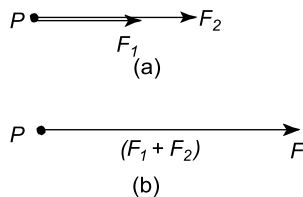

Figure 5.5
- (a) For forces acting in the same direction and having the same line of action, the single force having the same effect as both of the forces, called the **resultant force** or just the **resultant**, is the arithmetic sum of the separate forces. Forces of F_1 and F_2 acting at point P , as shown in Figure 5.5(a), have exactly the same effect on point P as force F shown in Figure 5.5(b), where $F = F_1 + F_2$ and acts in the same direction as F_1 and F_2 . Thus F is the resultant of F_1 and F_2 .